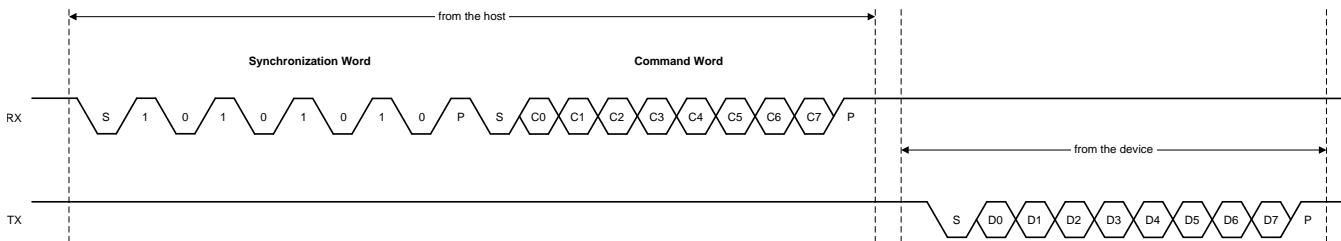

图 58. Example ADS122U04 UART Protocol
图 58 shows the timing sequence for the UART communication. In 图 58, as an example, there is only one byte for the command and one byte for the readback data. There may be multiple bytes for a command or the data that is read from the device. The protocol takes the 8-N-1 format: eight (8) data bits, no (N) parity bit, and one (1) stop bit.